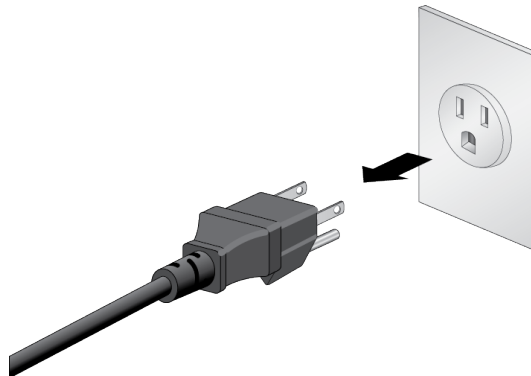

Figure 125. Powering Off the AC Power Supply
- ❑ For the AC power supply, disconnect the AC power cords from the AC power sources. Refer to Figure 125.